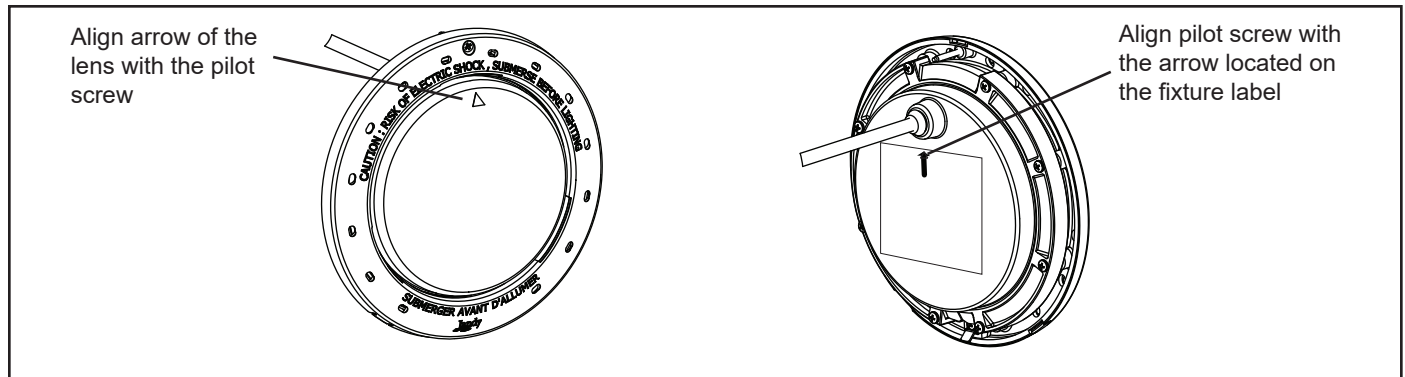

Figure 10. Alignment of the Lens, Face Ring, Housing and Clamps for WaterColors Lights
3. Position the lens and gasket on the fixture. Place the face ring assembly over the lens and align the pilot screw with the small arrow mark on the face of the lens. Note that the small arrow mark on the face of the lens and the pilot screw of the face ring must be aligned with the arrow located on fixture label that reads, "Arrow on this label must line up with the pilot screw on the Face Ring". See Figure 10.